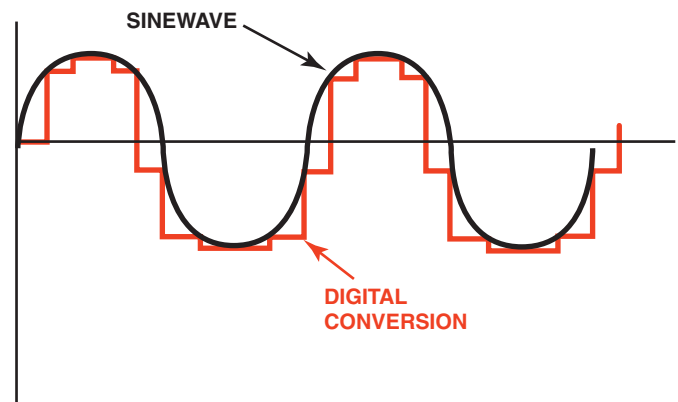

FIGURE 71-3 An AD converter changes analog (variable) voltage signals into digital signals that the PCM can process.
A digital computer changes the analog input signals (voltage) to digital bits (*binary digits*) of information through an **analog-to-digital (AD) converter** circuit. The binary digital number is used by the computer in its calculations or logic networks. ● **SEE FIGURE 71-3.**